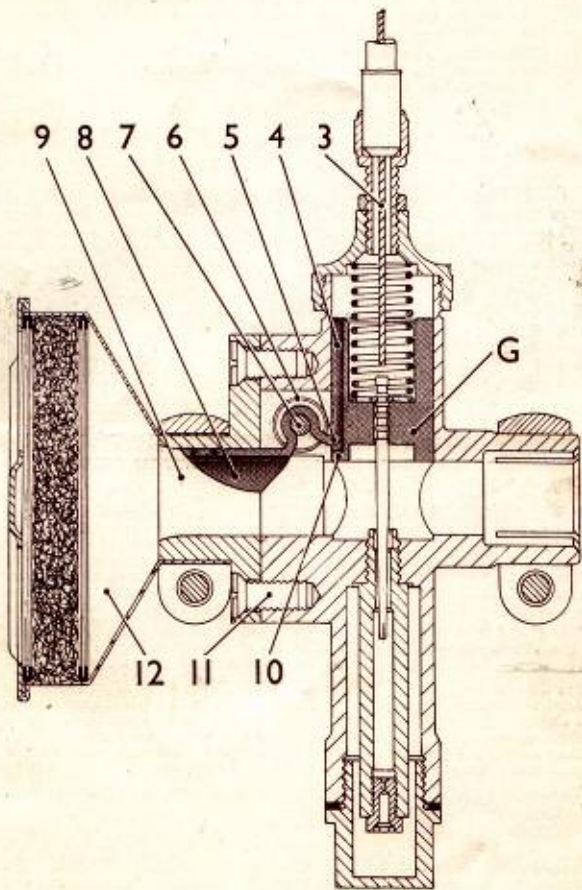
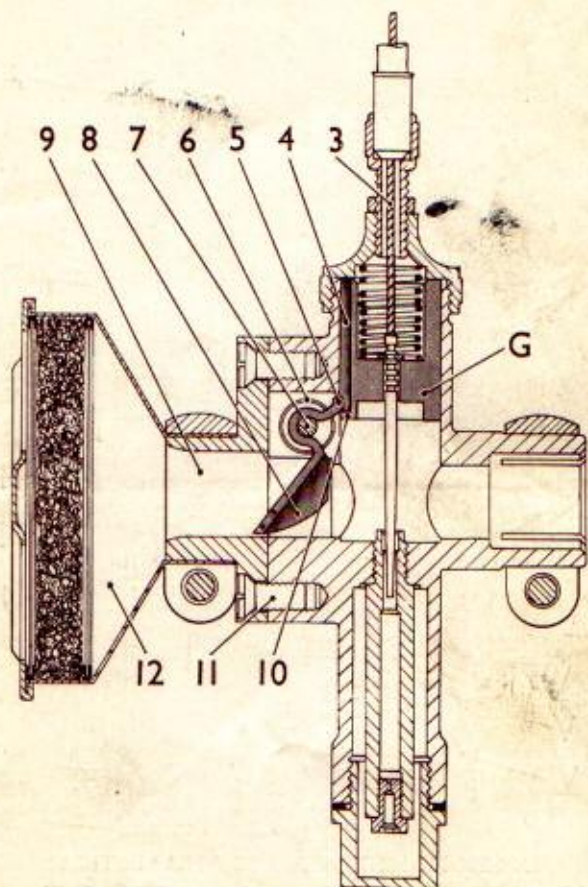

Fig. 3
Fig. 4
To withdraw the throttle valve one simply unscrews the mixing chamber cap (C), when the throttle valve assembly complete can be pulled straight out. The important thing to remember however, is when assembling same, (having removed the air filter) that the strangler (8) must be fully depressed to its closed position (see fig. 4, page 5) with the aid of a screwdriver or some blunt instrument introduced through the air intake of the carburetter. Then, holding it (8) in this fully closed position the throttle (G) should be introduced into the mixing chamber, and the mixing chamber cap (C) screwed on a few threads. The screwdriver or suchlike can then be withdrawn from the main air intake which will allow the beak strangler to return to its fully open position, and the throttle slide (G) will then be quite free in the body. The mixing chamber top (C) can then be fully tightened and the carburetter is ready for operation.
STRANGLER OPERATION. Dealing with the mechanical operation of the strangler (8) this is a spring loaded beak situated in the air intake of the carburettor, which has a tail (5) which engages with a slot machined in the throttle valve (4). This beak strangler is normally held by a return spring (6) in a fully open position, that is, offering no obstruction to the passage of air through the main air intake. When the throttle valve (G), however, has moved up to its full throttle position (see fig. 3), the end of the slot previously referred to presses against a tail (5) on the other end of the strangler (8), with the result that on over-opening the throttle valve (see fig. 4 on page 5) this firmly closes the strangler valve and restricts the passage of air through the main air intake.
PREPARATION. Follow the Engine Makers' instructions about fuel mixtures, etc., verify that the ignition is in good order and that the sparking plug is clean. Now from the carburetter point of view check up to see that when the throttle lever is open and the trigger is holding against projection on the lever base, that the throttle is wide open (see fig. 3 on page 4). To do this remove the air filter (12) and look inside. If the throttle is not wide open then adjust the cable adjuster (A) to bring the bottom of the throttle level with the cross bore in the mixing chamber.
Observe at the same time the action of the strangler (8) by depressing the trigger (2) on the lever (1) and over-opening the throttle (see fig. 4 on page 5). Bring back the throttle lever to the shut position and note that the throttle shuts easily.